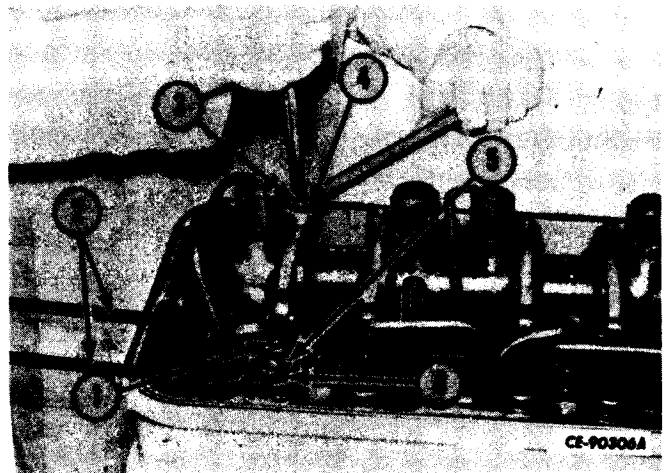

Fig. 31. Adjusting Valve Lash
- a. Loosen the valve bridge adjusting screw lock nut and back-off screw (1, Fig. 31) until clearance is noted between the valve stem and the adjusting screw.
6. Insert feeler gauges of the specified thickness (refer to "SPECIFICATIONS" in Section 9) between the valve stems and the valve bridge (Fig. 31). (Example: Both intake valves on the No. 1 cylinder.)